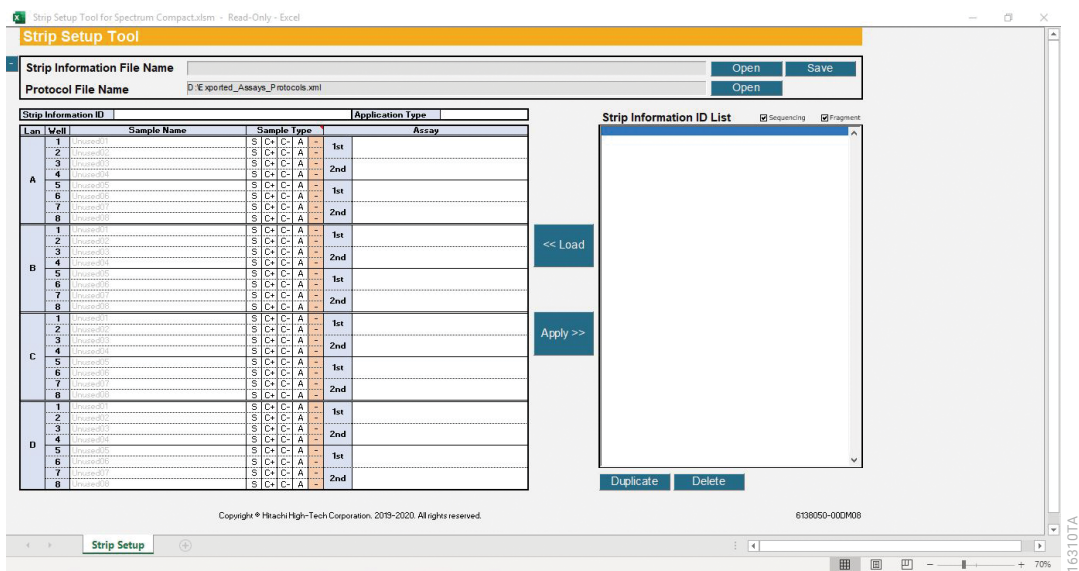

Figure 209. Strip Setup Tool for Spectrum Compact with Protocol File Name selected
2. Select **OK** to close out of this window. The protocol .xml file name is displayed at the top of the Strip Setup Tool for Spectrum Compact (Figure 209).